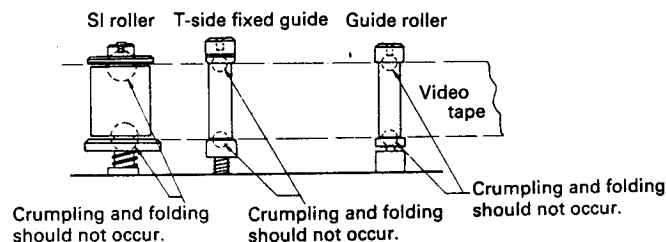

Figure 21.
- 1) When a video tape is running, check that the tape is neither crumpled nor folded at its edges (see Figure 21).
2. After adjustment, be sure to adjust tape travel and the guide rollers (T and S). Then check the height of the SI roller fixed guide as shown in Figure 21.